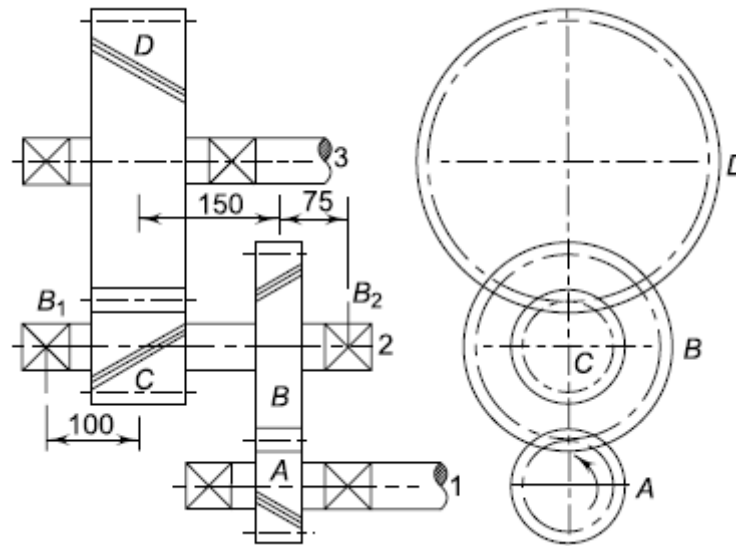

Fig.1
3. The layout of a double-reduction helical gearbox is shown in Fig.1. Pinion A is the driving gear and 17 kW power at 1200 rpm is supplied to it through its shaft no. 1. The number of teeth on different helical gears are $z_A = 24$, $z_B = 60$, $z_C = 24$ and $z_D = 72$. The normal pressure angle for all gears is 20° . For the pair of helical gears A and B, the helix angle is 30° , and the normal module is 5 mm. For the pair C and D, the helix angle is 25° and the normal module is 6 mm. Pinion A has right-handed helical teeth, while the pinion C has left-handed helical teeth. The bearings B_1 and B_2 are mounted on shaft no.2 in such a way that bearing B_1 can take only radial load, while the bearing B_2 can take both radial as well as thrust load. Determine the magnitude and direction of bearing reactions on shaft no. 2.